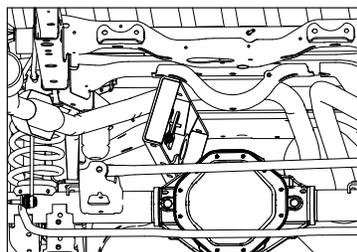
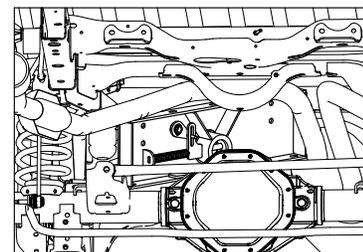

Figure C1. View under bed looking from rear towards the axle
Figure C2. View under bed looking from rear towards the axle
- 1. Position the center section.** Position the center section so that the 4" diameter raised area of the center fits into the 4" diameter hole in the truck bed while the 3/8" square hole is centered under the 3/4" diameter hole in the truck bed. When installed the round receiver will be almost directly above the axle of the pickup. If the pickup is equipped with dual exhaust the installation is more difficult. From behind the rear axle and with the bottom side of the center facing the passenger side of the truck, send the end of the center without the spring over the axle first, see Figure C1. Send the lead end of the center toward the front of the truck and to the passenger side far enough so the end of the center toward the rear of the truck will clear the exhaust, see Figure C2.